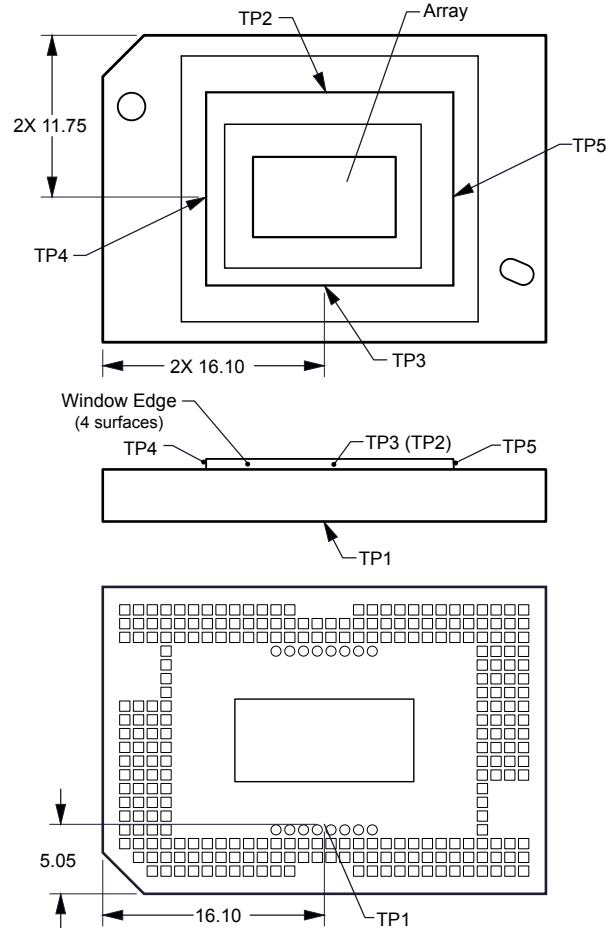

图 6-2. DMD Thermal Test Points
Micromirror array temperature cannot be measured directly, therefore it must be computed analytically from measurement points on the outside of the package, the package thermal resistance, the electrical power, and the illumination heat load. The following equations show the relationship between array temperature and the reference ceramic temperature, thermal test TP1 图 6-2 shown above:
- $T_{\text{CERAMIC}}$  = Measured ceramic temperature ( $^{\circ}\text{C}$ ), TP1 图 6-2
- $R_{\text{ARRAY-TO-CERAMIC}}$  = Thermal resistance of package specified in 节 5.5 from array to ceramic TP1 图 6-2 ( $^{\circ}\text{C}/\text{W}$ ).
- $Q_{\text{ARRAY}}$  = Total DMD Power (electrical + absorbed) on the array (W)
- $Q_{\text{ELECTRICAL}}$  = Nominal electrical power (W)
- $Q_{\text{INCIDENT}}$  = Incident illumination optical power (W)
- $Q_{\text{ILLUMINATION}}$  = (DMD average thermal absorptivity  $\times$   $Q_{\text{INCIDENT}}$ ) (W)